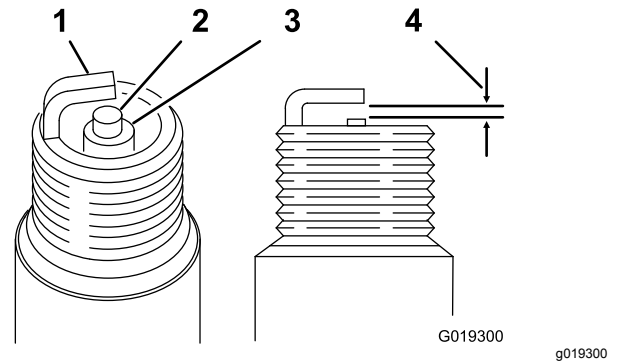

Figure 34
3. Set the air gap at 0.6 to 0.7 mm (0.024 to 0.028 inch) as shown in Figure 34. Install the correctly gapped spark plug and tighten it firmly to 23 N·m (17 ft·lb).